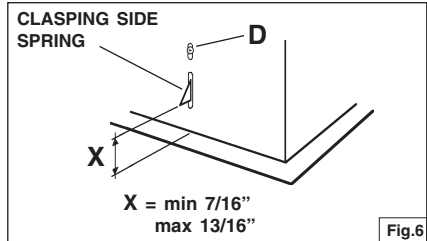

Fig. 6
3. Adjust the position of the clamping side spring by turning the "D" screw according to the thickness of the cabinet to which it is going to be anchored (Fig.6).